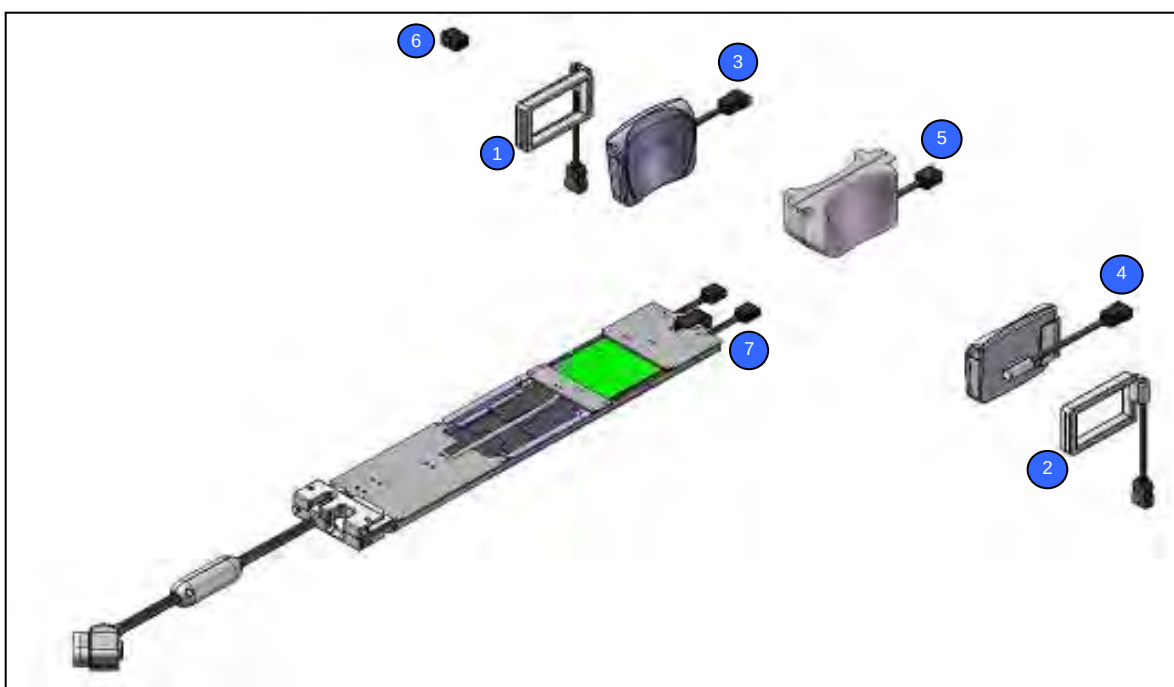

Figure 3
**VG 1.5T 16W Cable tray (Figure 3) shipped installed in Patient Support.*